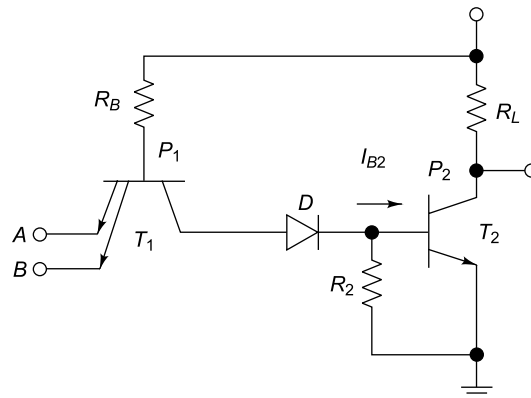

Fig. 6.47 Transistor-transistor Logic (TTL) of Ex. 6.28
6.28 Determine the voltages at P_1 and P_2 of TTL circuit as shown in Fig. 6.47.